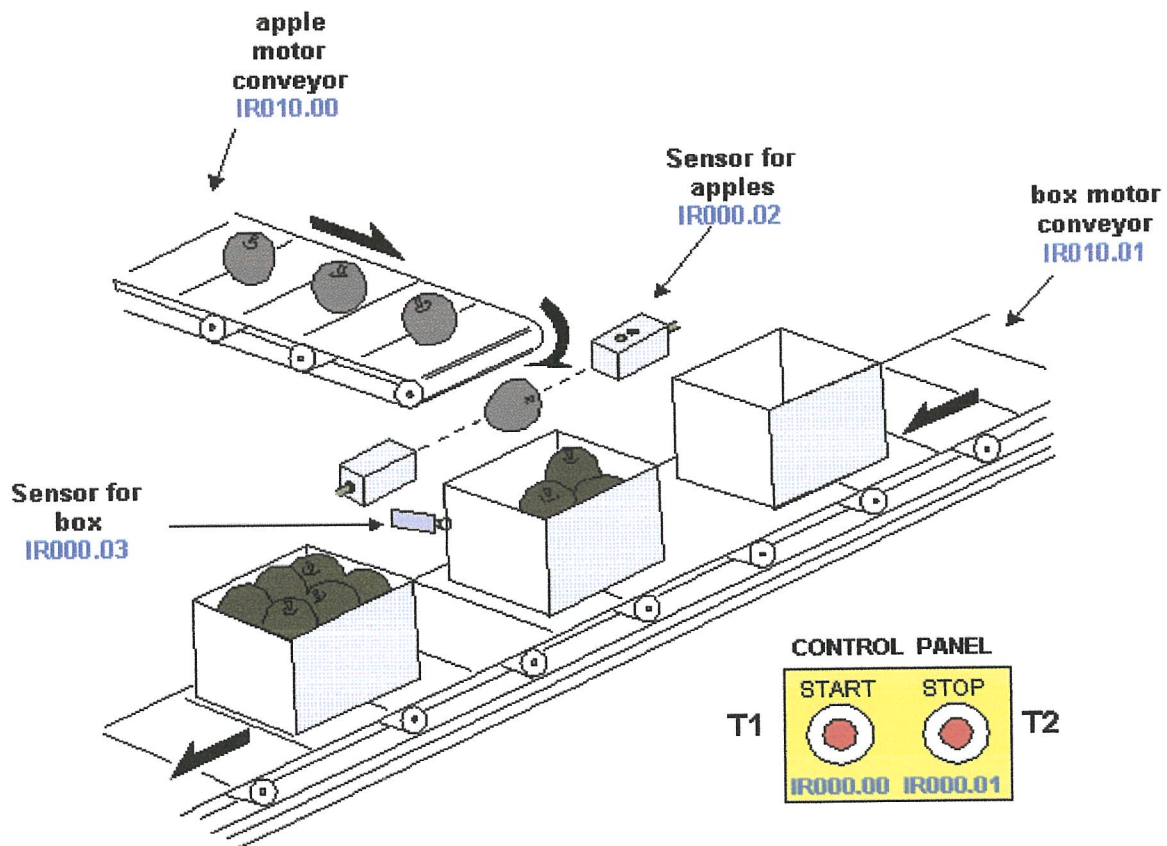

Figure Q4 (b)
- (b) **Figure Q4(b)** shows an automatic packaging machine for packing ten apples in one box. An counter use to count the number of apples. Refer the device list as shown in the **Table 4(b)**, shows the ladder diagram (Program control circuit) and working operation. (20 marks)
- Q5** (a) List **NINE (9)** principles of material handling. (9 marks)